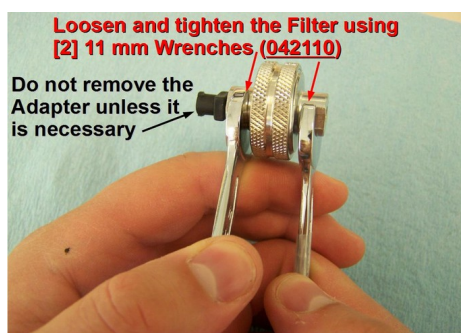
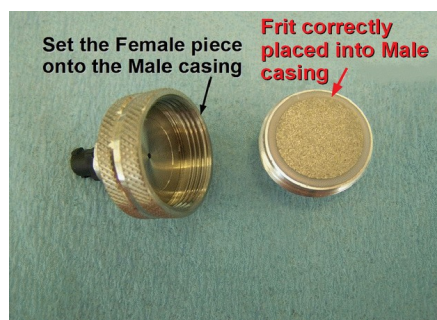

Figure 2A: Loosening and tightening the Filter Casing.
Figure 2B: Installing the Frit into the Filter Casing.
- Loosen and open the Filter using [2] 11 mm Wrenches (Figure 2A). If the Filter is new, visually check that the Frit has been snugly placed into the **Male Casing** (Figure 2B).